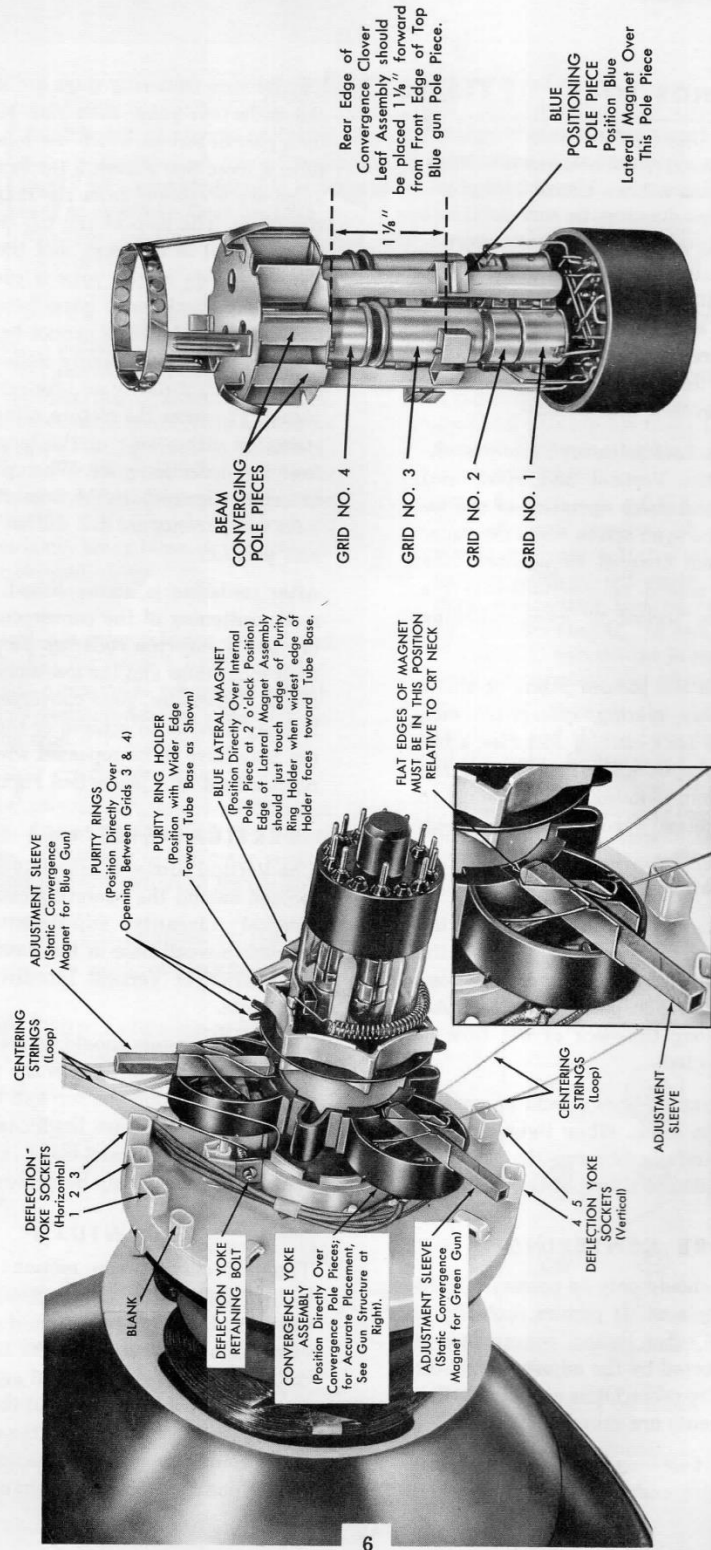

Figure 3—Location of Components on Neck of Picture Tube.
If the horizontal scanning lines are tilted, the deflection yoke must be repositioned. Loosen the yoke retaining bolt and adjust for correct position. See Figure 3. When positioning the yoke, do not slide it along the neck of the tube or purity will be affected.
Two picture centering rings are mounted inside the deflection yoke, each ring being controlled by a pair of strings which are joined together to form a loop. See Figure 3 for location. The two loops are accessible from the rear of the deflection yoke. The loop at the top side of the yoke is connected to one ring, and the other loop at the lower side of the yoke is connected to the other ring. Both rings have "stops" and therefore, the looped strings cannot be pulled out. Be sure the picture is properly centered *before* final adjustments of purity and convergence are completed. To center the picture, alternately pull the string on either side of the loop straight back from the deflection yoke. When pulling the loops to center the picture, be sure the convergence yoke components are not shifted from their correct position.
After centering is accomplished, check for correct positioning of the convergence yoke assembly to be sure the coils are properly seated in their mountings and the assembly correctly positioned. Otherwise, good convergence may be extremely difficult to achieve or the entire procedure may have to be repeated when the coils are repositioned into place. See Figure 3.
To perform a *complete* purity adjustment, a white dot generator is required for the first step. With the generator set for RF output, connect to the antenna terminals and tune in a white dot pattern. Check position of components on neck of picture tube, as shown in Figure 3.
1. Place the receiver in the same position as for viewing. Converge pattern at center of screen by adjusting the blue lateral magnet and sliding the permanent magnet adjusting sleeves in or out. See Figure 3. If range is inadequate, remove sleeve, rotate 180° and reinsert. Remove generator signal.
There are sixteen convergence adjustments. Four of these adjustments are shown in Figure 3. Three are on the convergence yoke assembly (static convergence magnets) and one, the blue lateral magnet, near the base of the picture tube. The blue lateral magnet permits a lateral shift of the blue beam in opposition to the lateral shift of the red and green beams. These four magnets are positioned for center area convergence *only*, even though they affect the entire raster.
NOTE Before proceeding with convergence adjustments, recheck the exact position of the neck components as shown in Figure 3. If the neck components are not properly positioned, convergence may be difficult to achieve. Convergence yoke leads are color coded.
1. Converge pattern at center of screen by adjusting the blue lateral magnet and sliding the permanent magnet adjusting sleeves in or out. See Figures 3 and 5. If range is inadequate, remove sleeve, rotate 180° and reinsert.